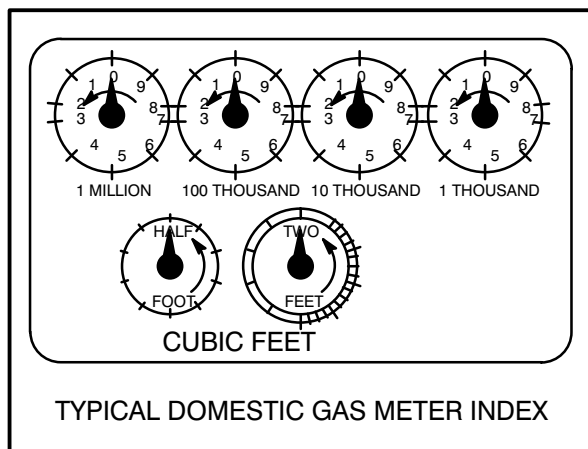

FIGURE 4
2. Using either the 1/2 cu. ft. or the 2 cu. ft. dials located on the gas meter, note the time it takes the indicator to complete one revolution. See FIGURE 4.